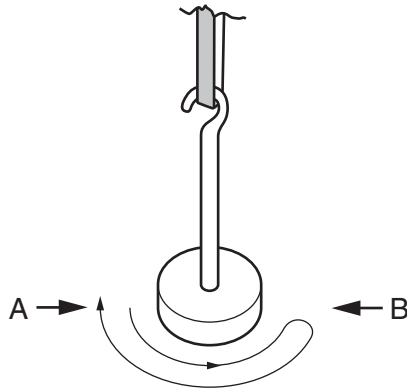

Fig. 2.2
- (b) (i) Twist the mass hanger about half a turn and release it so that it turns between positions A and B, as shown in Fig. 2.2.